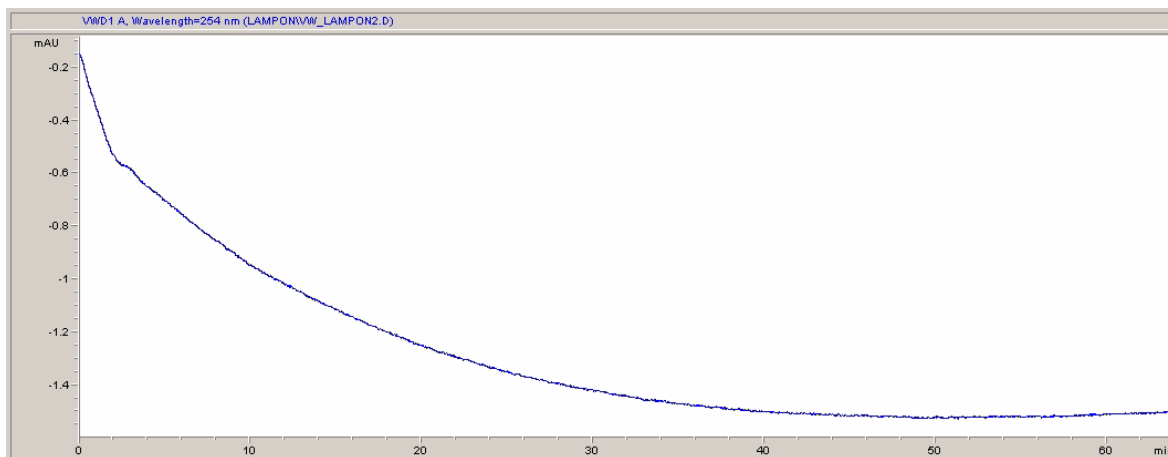

Figure 13 Stabilization of Baseline
- 6 Allow the detector to warm up of at least 60 minutes to provide a stable baseline (see example in Figure 13 on page 53).